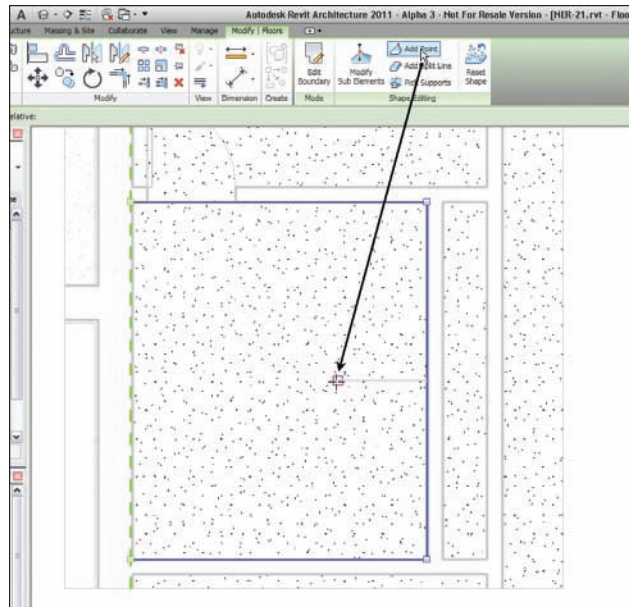

FIGURE 6.48 Picking the endpoint of the line
5. On the Modify | Floors tab, select the Add Point button, as shown in Figure 6.48.
6. Pick the endpoint of the line you just drew, as shown in Figure 6.48.